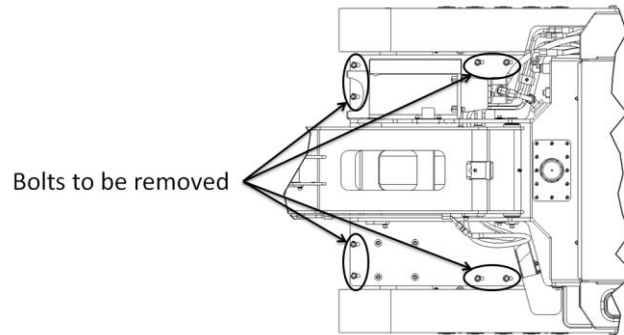

Figure 33 : Bolts to remove to separate the upper section of the MINIDOZER
2. Remove the 8 bolts indicated in the Figure 33. Cut the tie-wraps of the electric cables if there are any.
3. Remove the 8 bolts indicated in the Figure 33. Cut the tie-wraps of the electric cables if there are any.